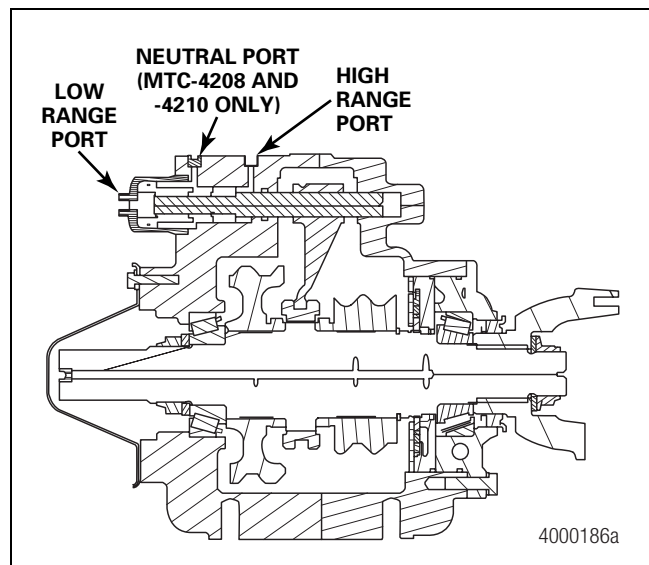
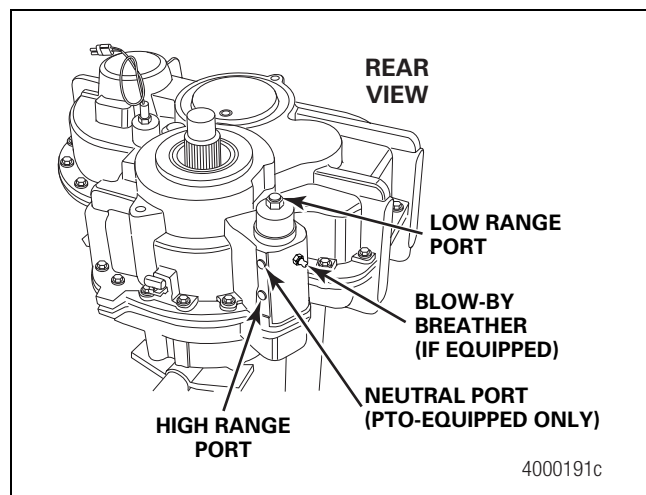

Figure 2.2
Figure 4.2
These transfer cases provide for two-speed output (high range and low range) and a neutral position that is used for PTO-equipped transfer cases only. Non-PTO cases have this neutral position plugged. Figure 2.2.
3. Shift the transfer case into high range using compressed air at the high-range port of the shift cylinder. Figure 4.2 and Figure 2.2.